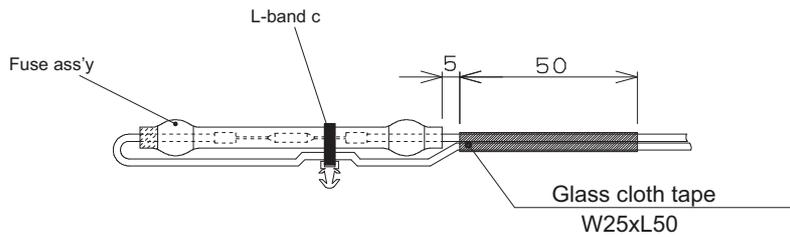

Figure A-5
1. Bind Fuse ass'y with L-band c. Then wind glass cloth tape (W25 x L50mm ) to lead wire of Fuse ass'y (Figure A-5).